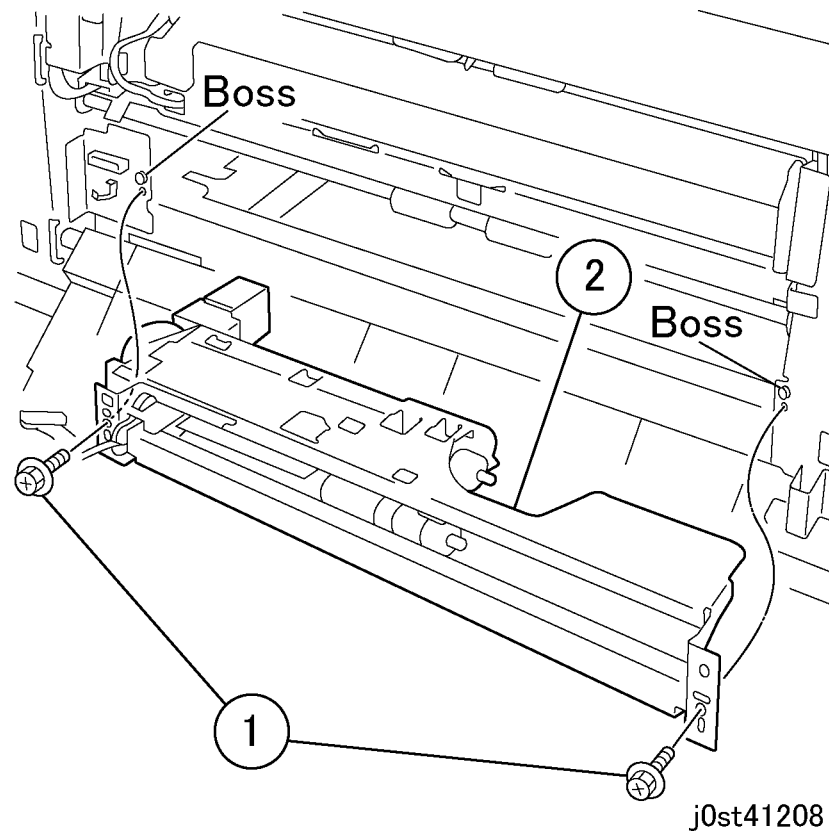

Figure 6 Removing the Tray 3 Feeder
8. Remove the Tray 3 Feeder. (Figure 6)